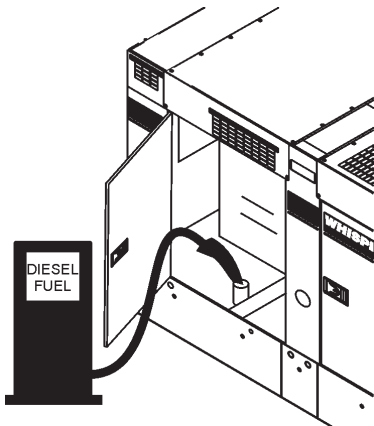

Figure 19. Fueling The Generator
2. Open cabinet doors on the “right side” of the generator (from generator control panel position). Remove fuel cap and fill tank (Figure 19).